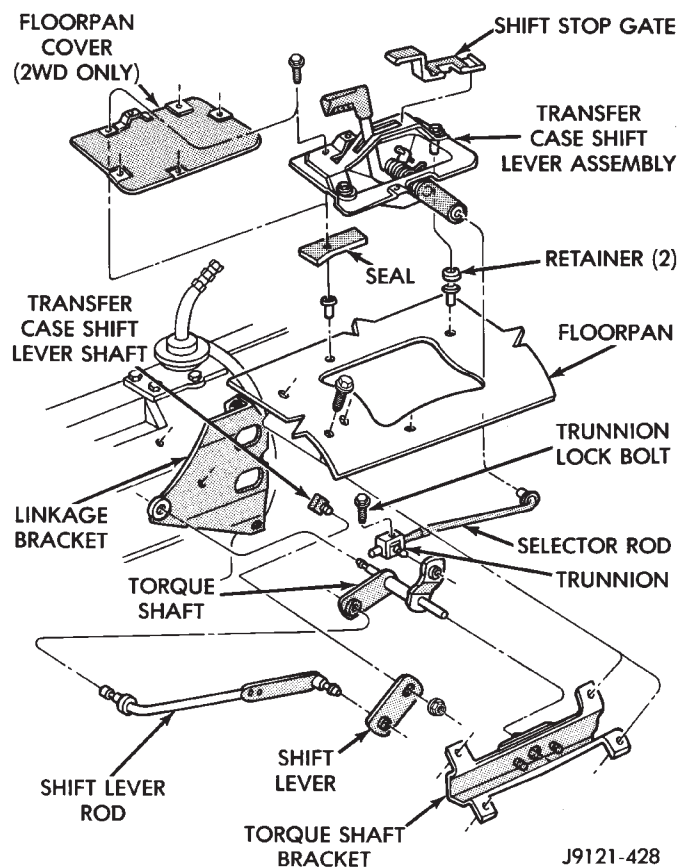

Fig. 5 Transfer Case Shift Linkage
- (4) Raise vehicle.
- (5) Loosen trunnion lock bolt (Fig. 5). Linkage rod should now slide freely in trunnion.
- (6) Verify that transfer case range lever is in 4L position.
- (7) Position linkage rod so it is free fit in range lever (Fig. 5). Then tighten trunnion lock bolt.
- (8) Lower vehicle.
- (9) Remove shift lever spacer and install bezel.